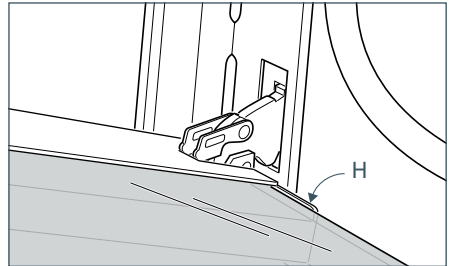

Fig.61c
- Insert the pane in the left "E" and right "F" slide guides, and gently slide it to the retainers "H" (Fig. 61c).